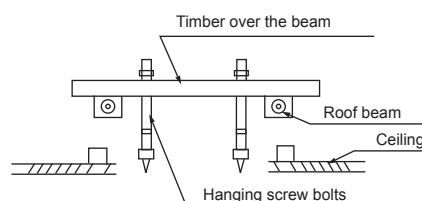

Fig.5-3
- Please Refer to Fig. 5-3 and Fig.5-4 for the hanging screw bolts distance